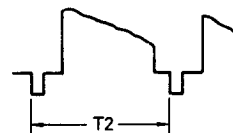

Figure 56.
2. Monitoring PT401 with an oscilloscope (internal trigger), adjust R737 to obtain $T2 = 64 \pm 3$ μs as shown in Figure 56.
2. Monitoring TP401 with an oscilloscope (internal trigger), adjust R736 to obtain $T2 = 64 \pm 3$ μs as shown in Figure 56.